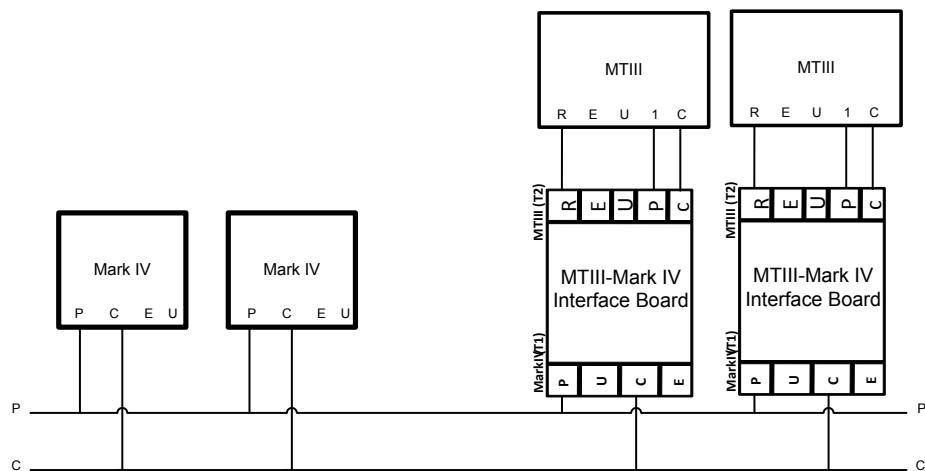

Figure 3 MTIII-Mark IV Interface Board Pump Request Wiring
- The H8 pin 1 of the MTIII WSHP board is connected to T2 pin P of the MTIII-Mark IV Interface Board. For Pump Request only wiring, see installation wiring diagram Fig 3.